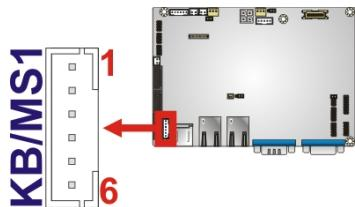

Figure 3-7: Keyboard/Mouse Connector Location
**CN Location:** See Figure 3-7